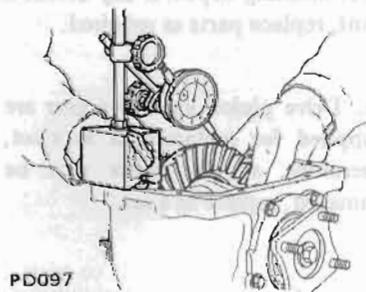

Fig. PD-27 Measuring the backlash of ring gear and pinion
4. Measure the backlash of ring gear and drive pinion by using a dial indicator and adjust it to 0.1 to 0.2 mm (0.0039 to 0.0079 in). See Figure PD-27.